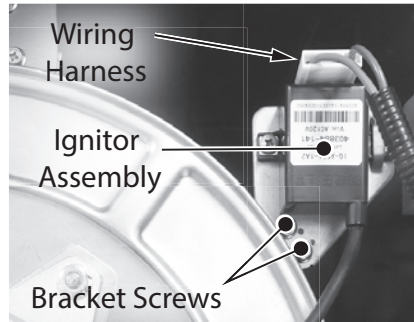

Figure 138 - Ignitor assembly location
- 31** Locate the ignitor assembly on upper right side of the heat exchanger as shown in Figure 138.